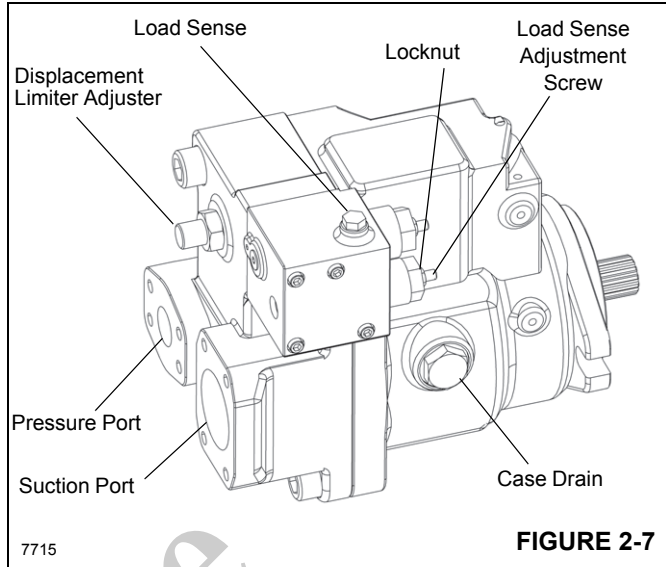

FIGURE 2-7
4. If swing pressure is not correct, adjust Main Relief (Figure 2-7) as follows: Loosen 1/2 in locknut and use 4 mm allen wrench to adjust setting. Turning clockwise increases the setting. Each turn gains 11 bar (153 psi). Be sure to tighten the locknut to 17.7 Nm (4 lb-ft) to secure the setting.
3. Adjust the LS adjusting screw (Figure 2-7) on the pump until the Pump Margin Pressure setting is correct.